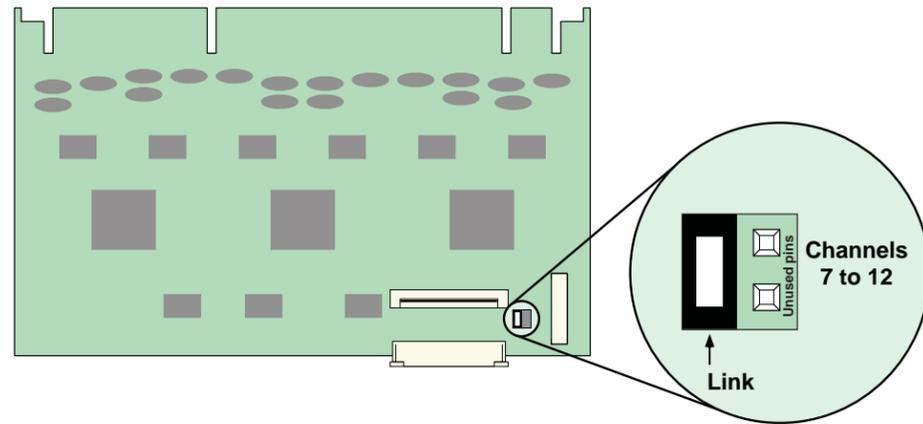

Figure 3.4 Input board link
6. Taking all necessary precautions relevant to static-sensitive devices, unwrap the new board. If necessary set the board link as shown in figure 3.4. The link must be set as shown, otherwise channels 7 to 12 will not be recognised.